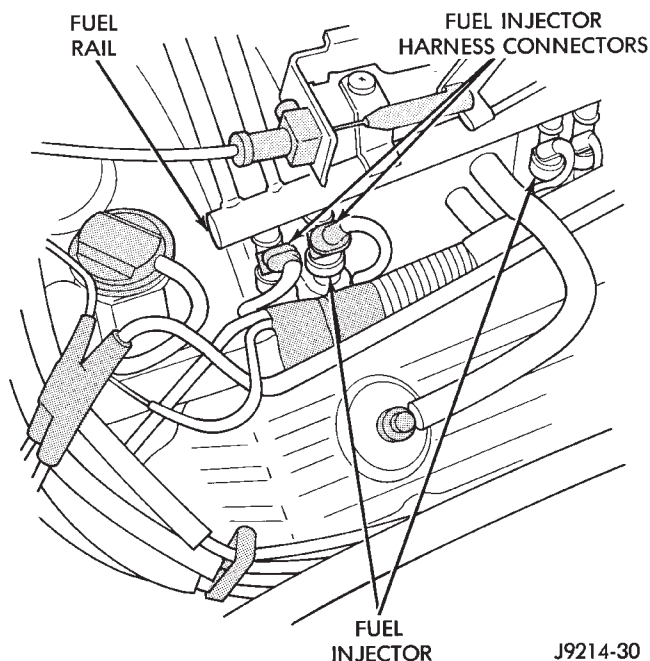

Fig. 32 Fuel Injector Connectors—Typical
- (6) Disconnect electrical connectors at all fuel injectors (Fig. 32). The factory fuel injection wiring harness is numerically tagged (INJ 1, INJ 2, etc.) for injector position identification.